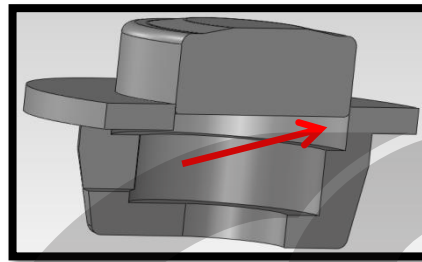

Figure 6m
- p) **CorkSport HPFP Internals** : Hit the tappet until it is fully seated and no longer can be removed from the top of the piston. **Figure 6l** shows a tappet fully installed (left) vs. released (right). **Figure 6m** on the next page shows a cutaway of a fully installed tappet for extra clarity.